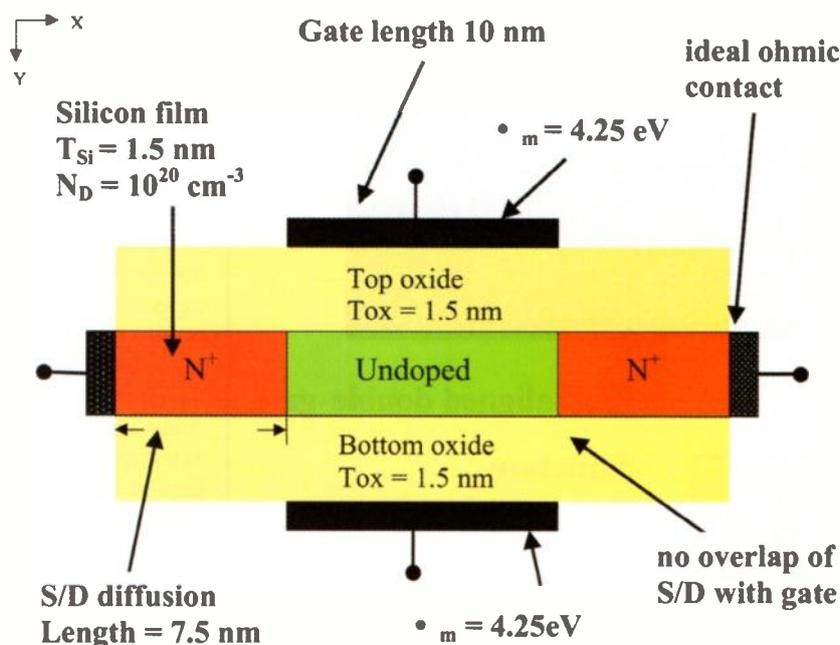

Figure 2.
The device design and physics issues of ballistic double gate (DG) MOSFETs were explored using both semi-classical and quantum simulations (Figure 2 shows a schematic diagram of the model device). A 10nm channel length seems to be the rough dividing line between classical and quantum operation: above that MOSFETs essentially operate as classical devices; below that, quantum effects largely take over. It was found that tunnelling from source-to-drain increased the off-current but decreased the on-current for a 10nm model transistor. It was also found that